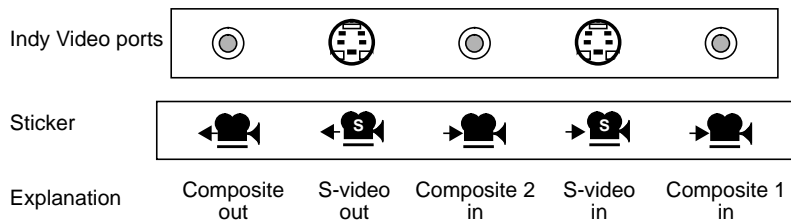

Figure 4-8 Indy Video connectors and label
4. Apply the label for the connectors onto the system panel, below the Indy Video connectors, as shown in Figure 4-8.